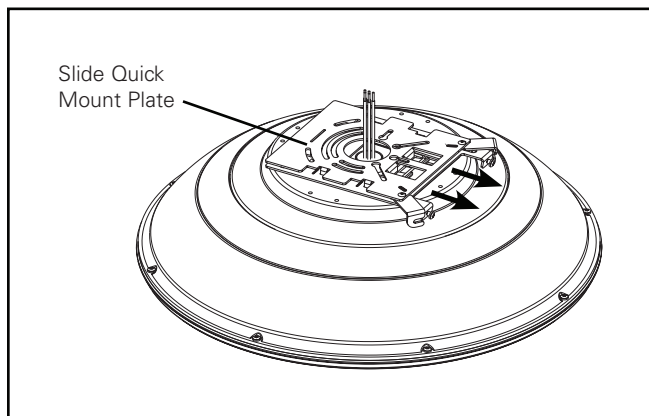

Figure 2.
2. Slide quick mount plate forward until the plate disengages from the housing (Figure 2).